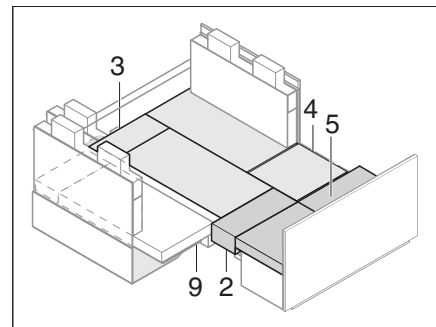

Fig. 223 After extending
- Insert the additional cushion (Fig. 223,5).